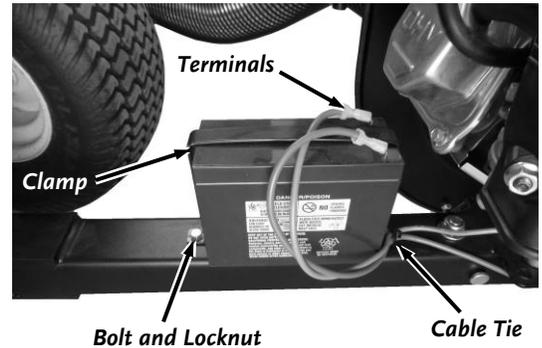

Figure 104
1. Disconnect the Battery Terminals (**Figure 104**).